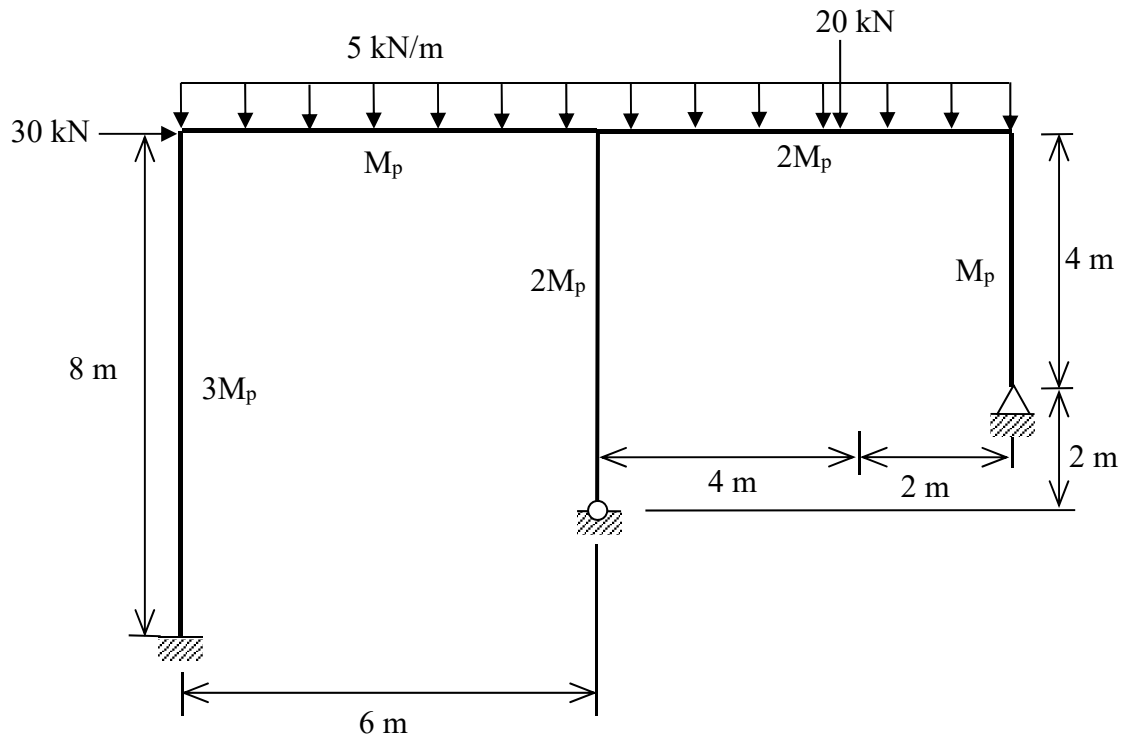

Figure 6/Rajah 6
5. **Figure 6** shows a rigid-jointed frame to carry the working loads. If the collapse load factor is to be 2, determine the required plastic moment capacity (M_p) for the frame.